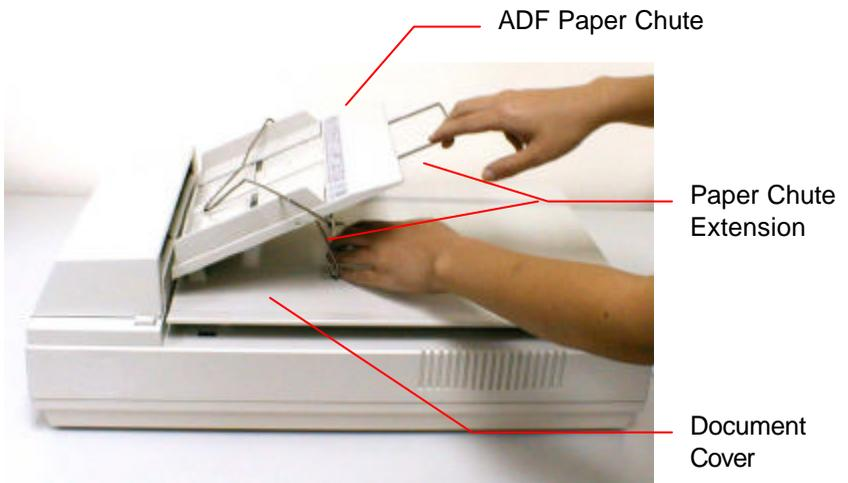

Figure 2-4 Install the ADF paper chute
2. Place the ADF paper chute to about 45 degrees. Insert the ADF paper chute to auto feeder holes on the document cover as shown in Figure 2-4.